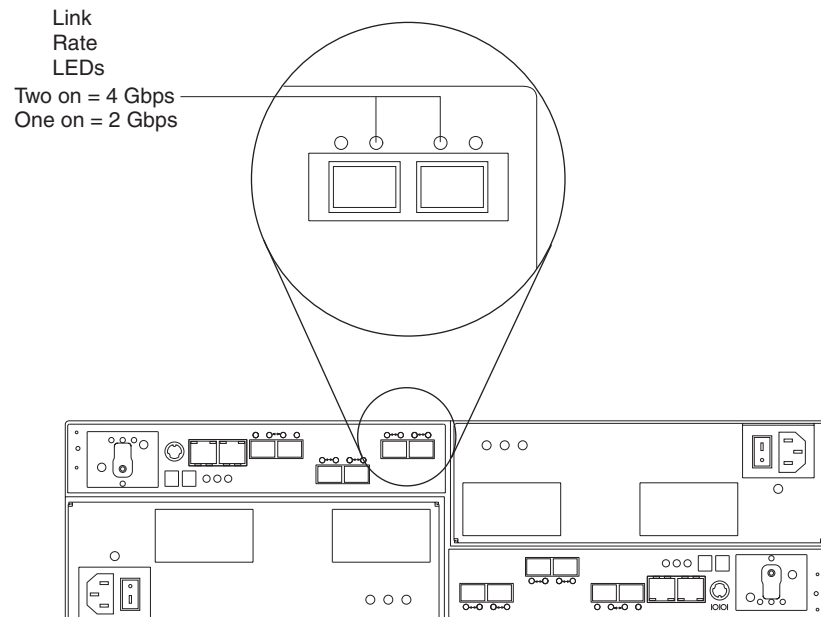

Figure 81. Link rate LEDs
2. Locate the link rate indicator LEDs. Figure 81 shows the location of the link rate indicator lights on the back of the storage subsystem.
4. Locate the link rate switch. Figure 81 on page 137 shows the location of the link rate indicator light on the front of the command module.